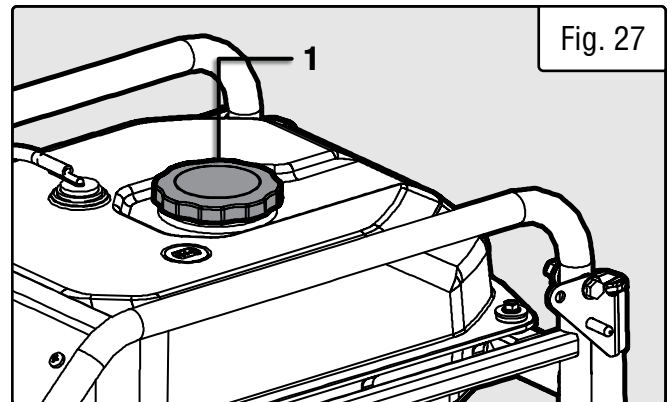
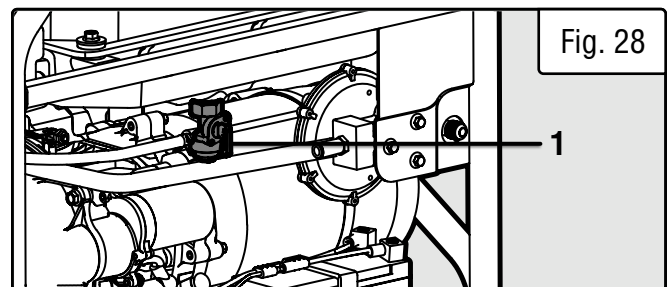

Fig. 27
Fig. 28
3. Remove the fuel cap (Fig. 27 - 1) and turn the fuel valve (Fig. 28 - 1) ON.
5. Once fuel is completely drained from the tank, reinstall the fuel cap and turn the fuel valve (Fig. 28 - 1) OFF. Tighten the drain screw with the screwdriver.